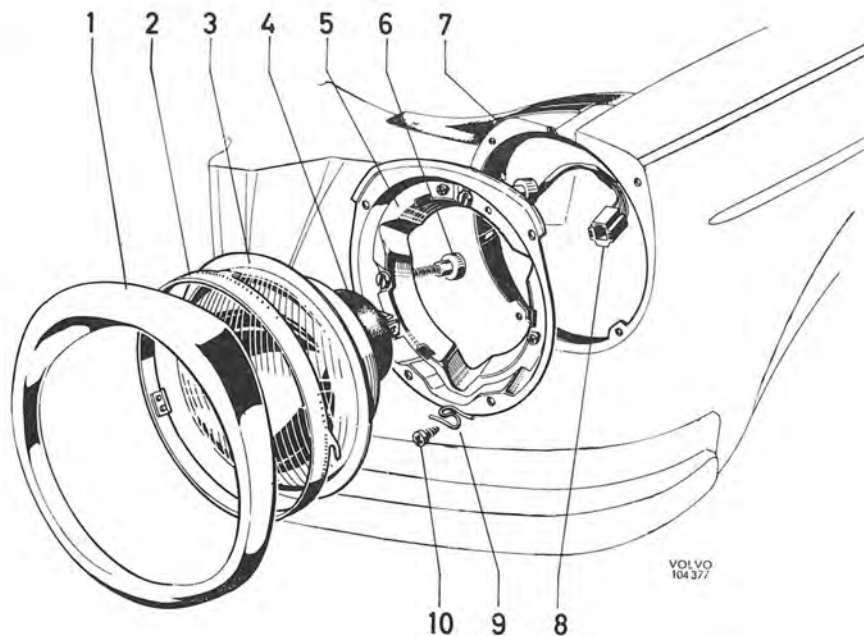

Fig. 3-87. Headlight
- Adjust the light according to current legislation. Adjustment is made by means of the two adjusting screws, see Fig. 3-87. Use approved light adjusting equipment.
behind the headlight, see Fig. 3-87. The upper knob adjusts the headlight vertically and the knob at the side adjusts the headlight laterally.